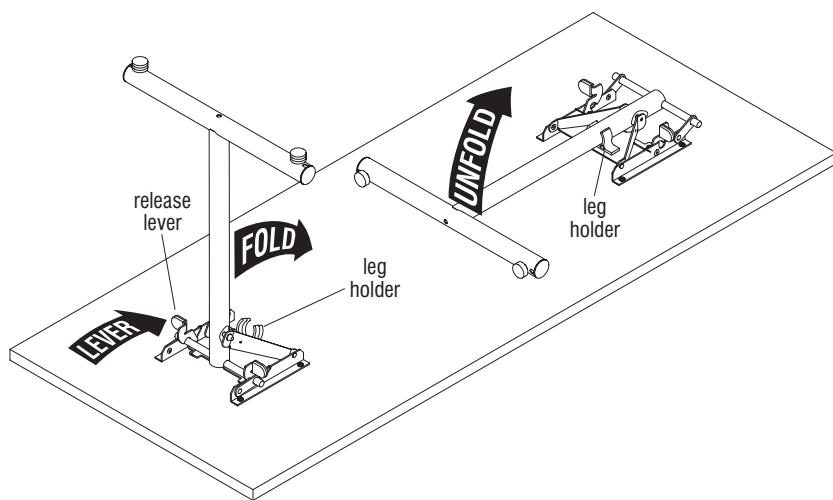

Figure 5 - Lightweight Folding T-Base
1. Place table top upside down onto a soft protective surface (Figure 5).
2. Unsnap table leg from leg holder. Lift leg to a 90° angle making sure the base locks securely into place (Figure 5).
4. Place table top upside down onto a soft protective surface (Figure 5).
5. While depressing either one or both of the gray release levers on either side of the leg base, push the leg down toward the center of the table. Snap the leg into the plastic leg holder (Figure 5).
7. If all four glides do not come in contact with the floor, adjust appropriate glide(s) in or out to stabilize table (Figure 5).
8. While in the folded position, the spacing bumpers provide protection for the top surface of an adjacent table when tables are leaned against each other (Figure 5).